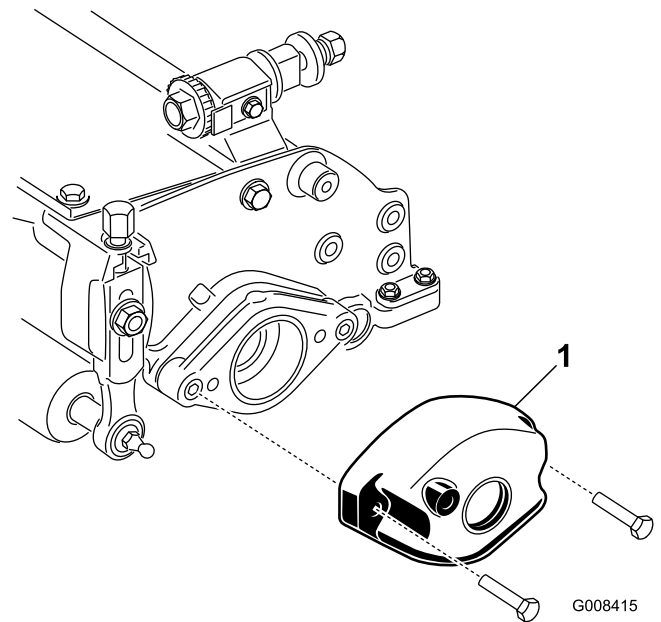

Figure 2
5. Remove the 2 bolts and 2 nuts securing the counterweight to the left end of the cutting unit and the counterweight (Figure 2).